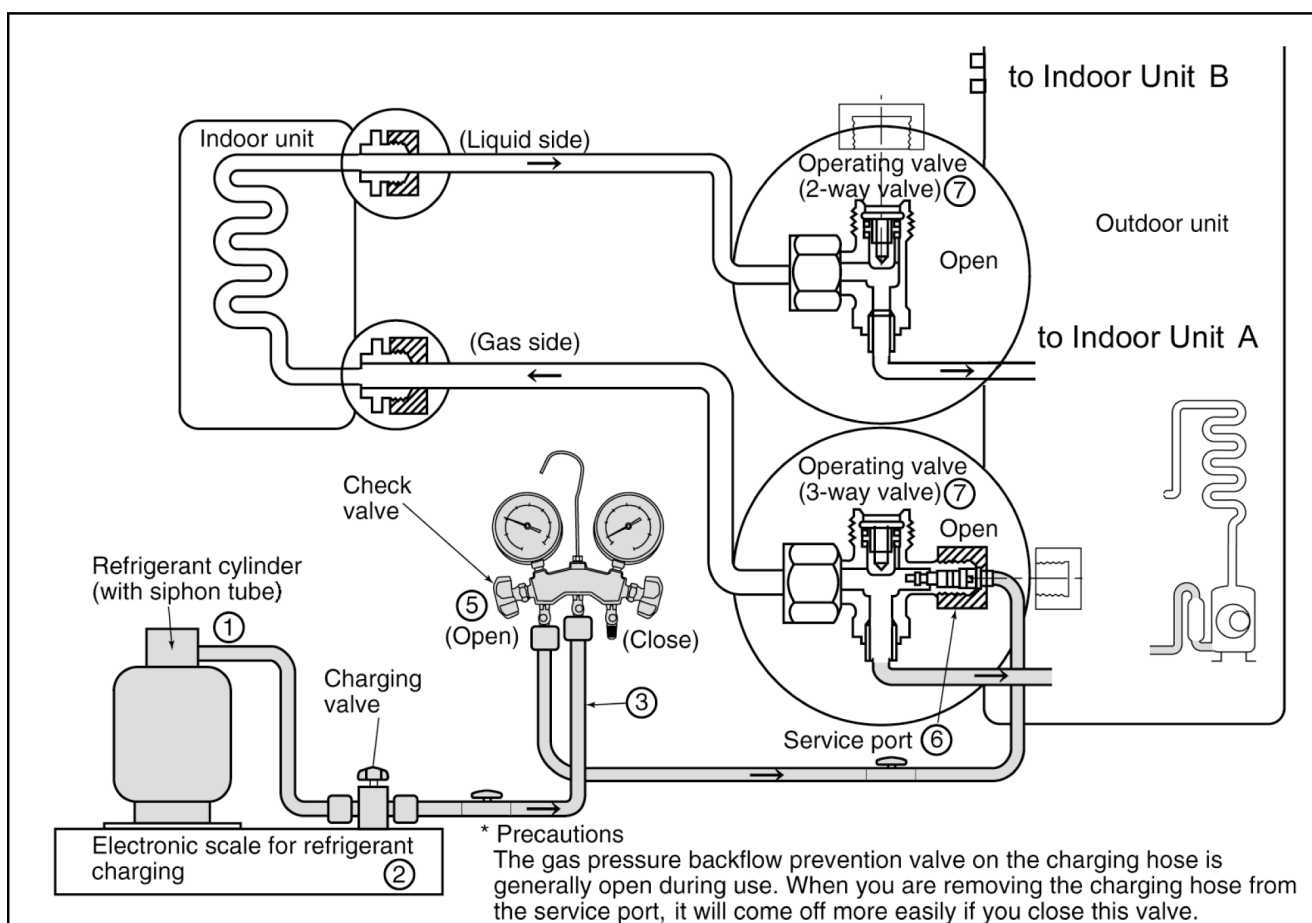

Fig. 13 Re-charging refrigerant
4. Confirm that the low pressure gauge shows a reading of -0.1 Mpa (-76 cmHg), then fully close the handle Lo, and turn off the vacuum pump. Wait for 1-2 minutes, then check to make sure that the needle of the Low pressure gauge has not returned. See Fig. 13 for the remaining steps of this procedure.
5. Set the refrigerant cylinder onto the electronic scale, then connect the hose the cylinder and to the connection port for the electronic scale. (1)(2)